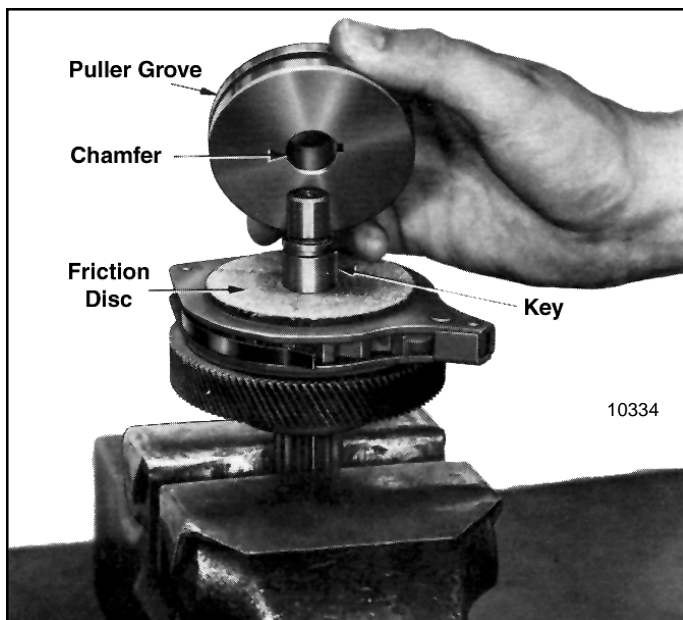
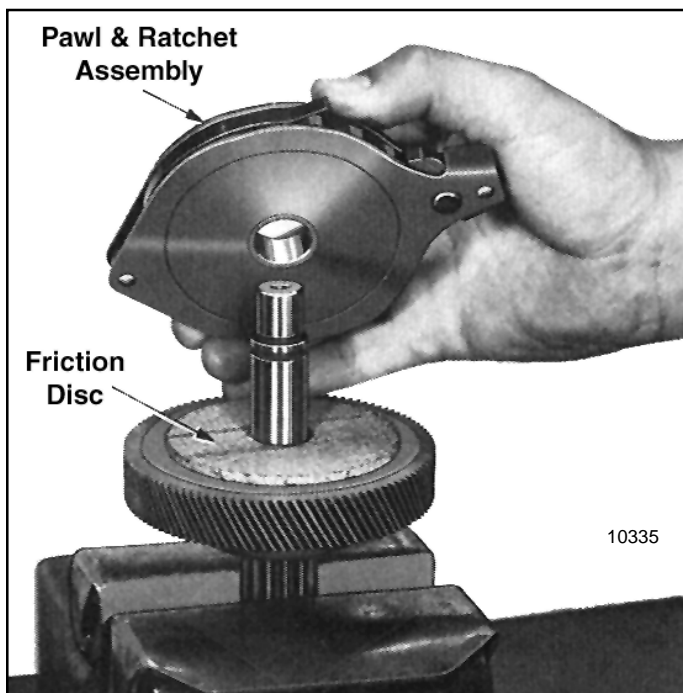

Figure 7-19. View Showing Load Brake Flange Removed
Figure 7-20. Removing Pawl and Ratchet Assembly From Load Brake Shaft
- (2) Using a puller tool, remove brake flange from shaft. A groove is provided around outer diameter for this purpose. See Figure 7-19. Remove key from shaft and lift off 2 friction discs, and the pawl and ratchet assembly (Figure 7-20).
- (4) When installing pawl and ratchet assembly on load brake shaft, be certain that teeth on ratchet face are in the same direction as shown in Figure 7-20. The ratchet assembly should rotate freely when turned counterclockwise and the pawl should engage ratchet teeth when unit is turned clockwise.
- (5) When installing brake flange position it with chamfer facing friction disc, Figure 7-19.